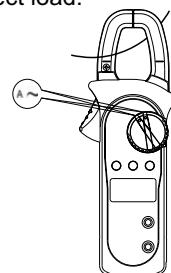

Figure 12
10. AC current measurement ($A \sim$) (shown in Figure 12)